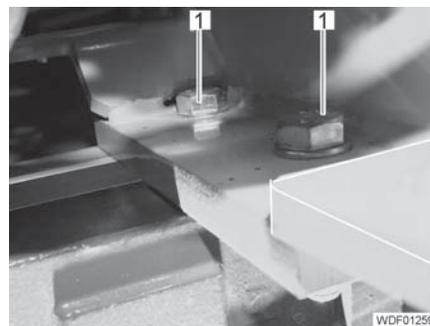

Fig. 256 Rear axle attachment
- Insert 2 screws (Fig. 256,1) with washers on both sides of the rear axle through the holes from above.
- Screw the 2 nuts with washers onto the screws (Fig. 256,1).
- In each case, tighten the 2 screws (Fig. 256,1) with a tightening torque of 360 Nm.